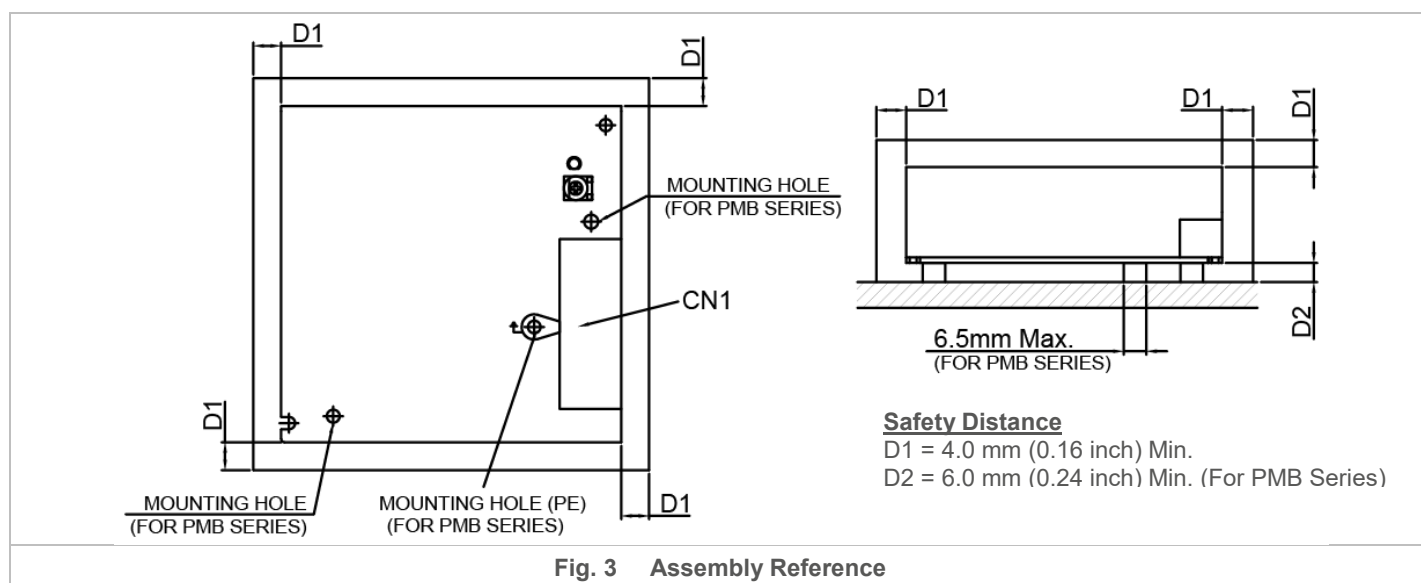

Fig. 3 Assembly Reference
- **PM□-24V35W1AA□ / PM□-24V35W1AG:** Use flexible cable (stranded or solid) of AWG No. 22-12. User should calculate and select the suitable wire specification (type/quantity/diameter) according to actual output current. The torque at the Connector shall not exceed 13 Kgf.cm (11.23 lbf.in). The insulation stripping length should not exceed 0.275" or 7 mm (Refer to Fig. 3).
- **For PMB Series: (Refer to Fig. 3):** The mounting holes on any mounting accessories for the device should be kept at a diameter of  $< 6.5$  mm (0.26 inch). This is to ensure sufficient safety distance between the mounting screw and the components around the mounting holes on the PCBA. Therefore, the diameter of the mounting screw should be kept at  $< 6.5$ mm (0.26 inch).